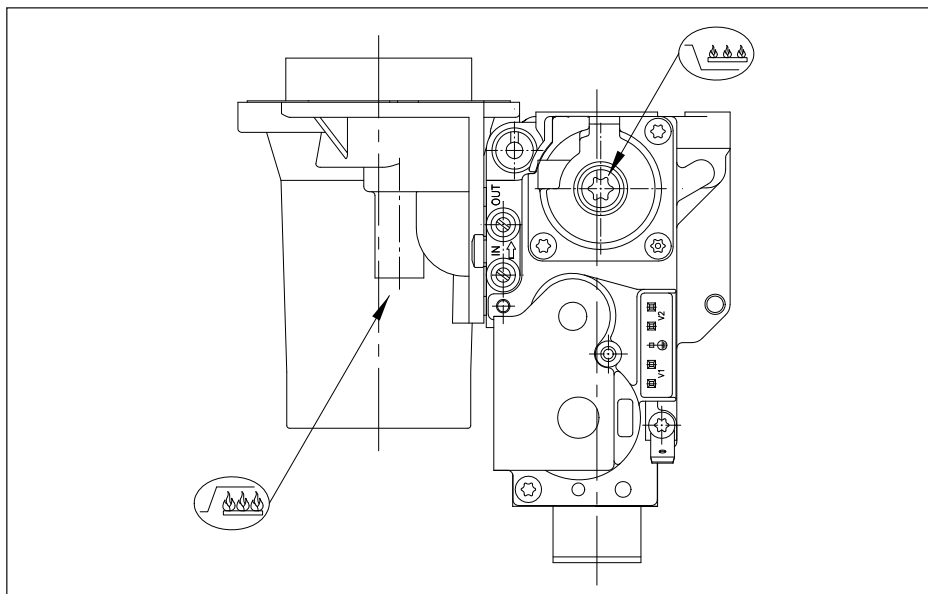

Fig. 21 Setting screws
- 17.3. When full-load speed is reached, check values against the table and adjust if necessary using the β screw on the venturi (see fig. 21).
- 17.6. When part-load speed is reached, check values against the table and adjust if necessary using the  screw on the combi valve (see fig. 21).